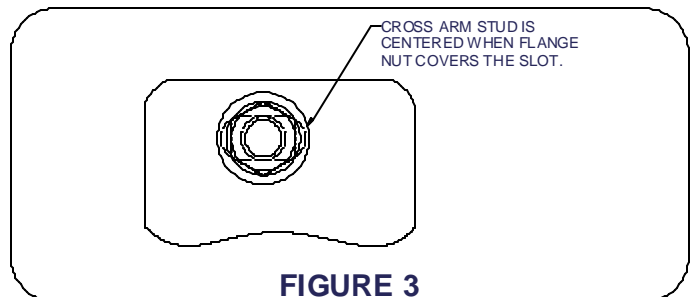

FIGURE 3
- 6) Center the rear cross arm studs in the side plate slots as shown in **Figure 3**. Use a 15/16" wrench to tighten the 5/8" flange nuts on the rear cross arm to the side plates. **(Note: Do not tighten front cross arm until center section installation is complete.)**